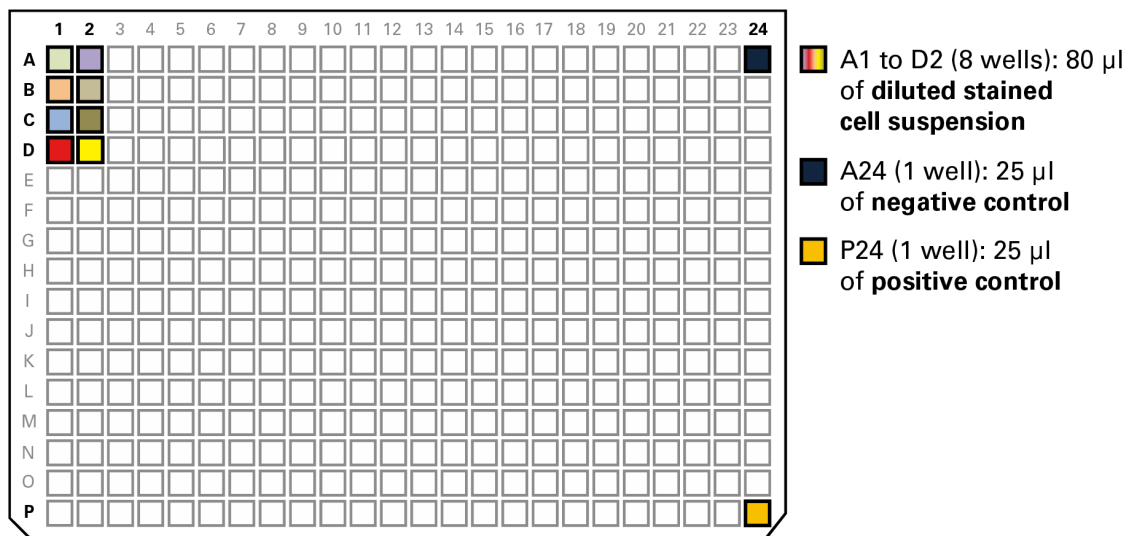

Figure 7. Setting up the 384-well source plate for dispensing cell samples and controls.
**The 1,000-µl total volume of diluted stained cell suspension is sufficient for distributing 80 µl of cell suspension in each of eight source wells (see Figure 7, below).
- Using a 200- μ l pipette tip, slowly and carefully load 80 μ l of cell suspension into wells A1, A2, B1, B2, C1, C2, D1, and D2 of a 384-Well Source Plate as indicated in Figure 7 (below).
- Add Positive and Negative Controls to the 384-well source plate as indicated in the following steps and in Figure 7 (below):